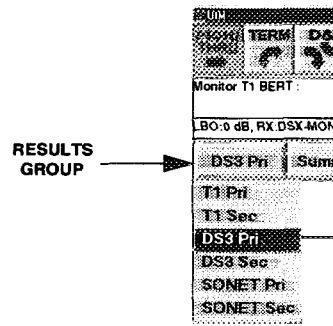

Figure 2-3. Results GROUP Selection on Main Menu Screen
2. **Results GROUP Display** — The first button in this dual-feature display depicts a pull-down list of the current test results, and lets you change the *source* between the Primary and Secondary receivers, such as **T1 Pri** (T1 Primary), **T1 Sec** (T1 Secondary), **DS3 Pri**, **DS3 Sec**, **SONET Pri**, and **SONET Sec** (see Figure 2-3).